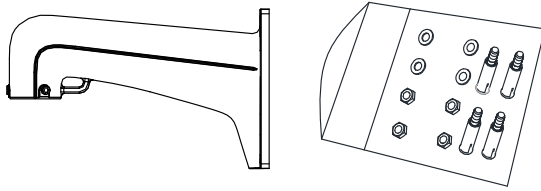

Figure 3-4 Bracket and Accessories
- The bracket in Figure 3-4 is the recommended bracket for this series of speed dome, and a pendant adapter is required if any other bracket is selected. The dimension of pendant adapter is  $G1\frac{1}{2}$ .
- The bracket in Figure 3-4 is the recommended bracket for this series of speed